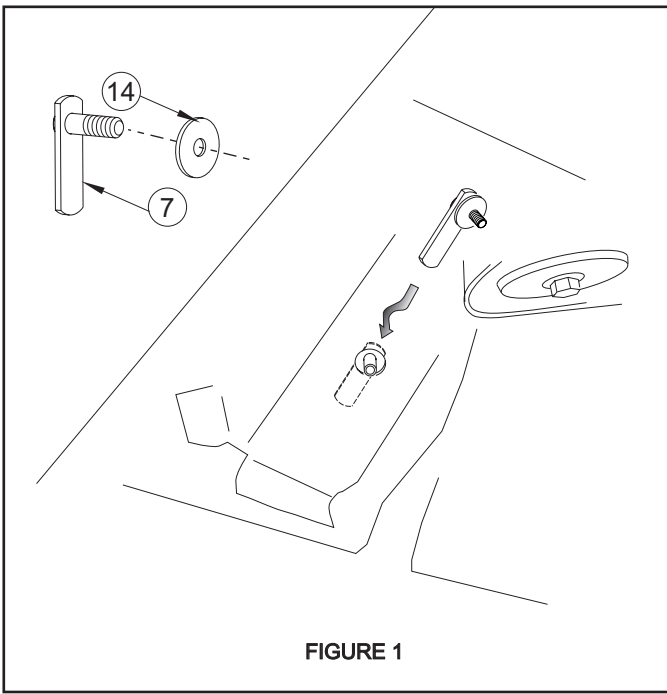

FIGURE 1
- STEP 4.** Attach plastic washer to bolt plate. Insert bolt plate as shown. **SEE FIGURES 1, 2 AND 3.**
- STEP 5.** Attach support brace as shown. Hand tighten. Be sure bolt plate does not rotate out of hole by holding with small screwdriver until it is snug. **SEE FIGURES 1, 2 AND 3.**